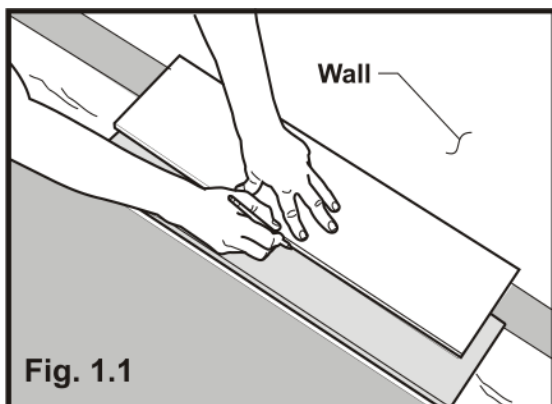

Fig. 1.1
- 1.1 Start with groove sides of board facing starting walls. If starting wall is not square or otherwise irregular, scribe first row (Fig. 1.1), then cut boards to match variation in wall.
Since last row will generally not fit perfectly, scribe row as shown in Fig. 1.1, remembering to allow minimum 1/2" expansion gap. Interlock all seams with Last Board Puller.